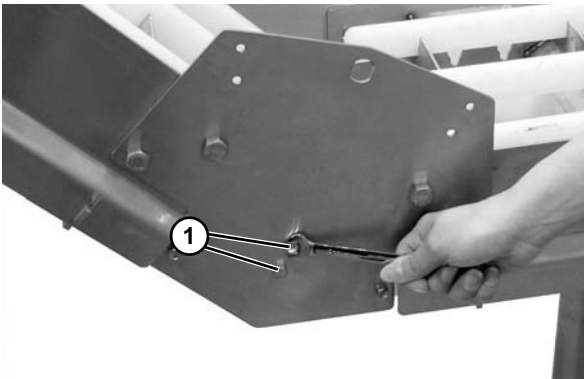
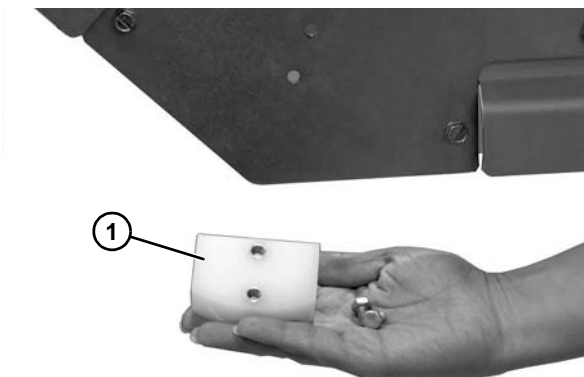

Figure 59
Figure 60
4. Remove two cap screws (**Figure 59, item 1**) and the inner belt return guide (**Figure 60, item 1**). Repeat on opposite side of the conveyor.